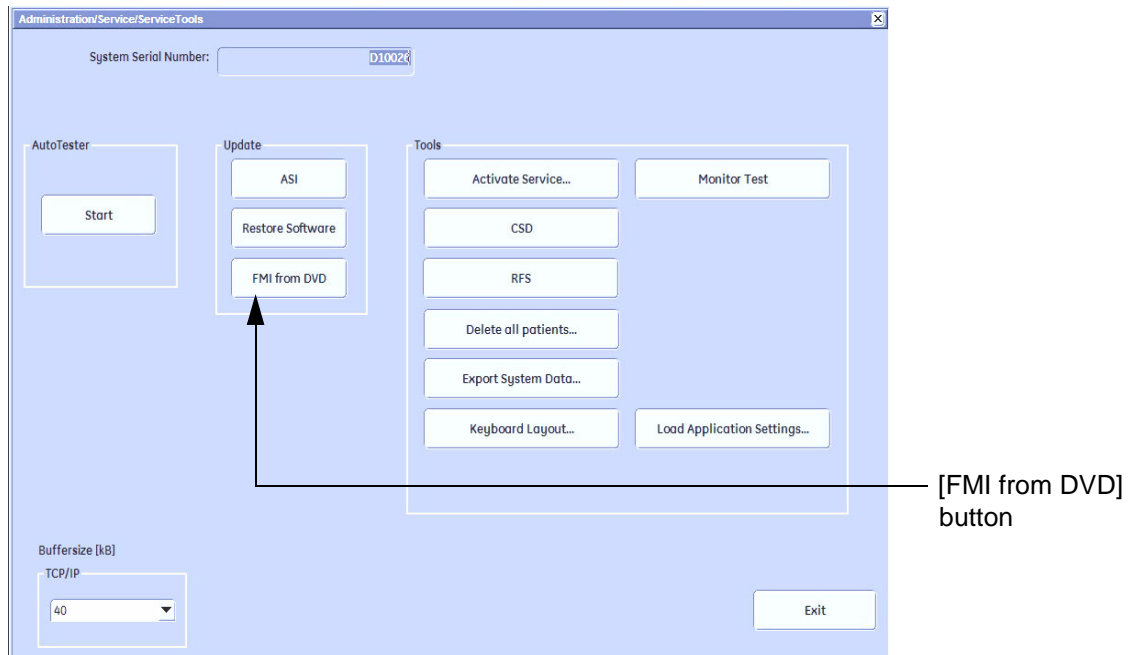

Figure 8-3 Service Tools
- 9.) Click the FMI FROM DVD button (see: Figure 8-3 on page 8-6) for updating the System Software.